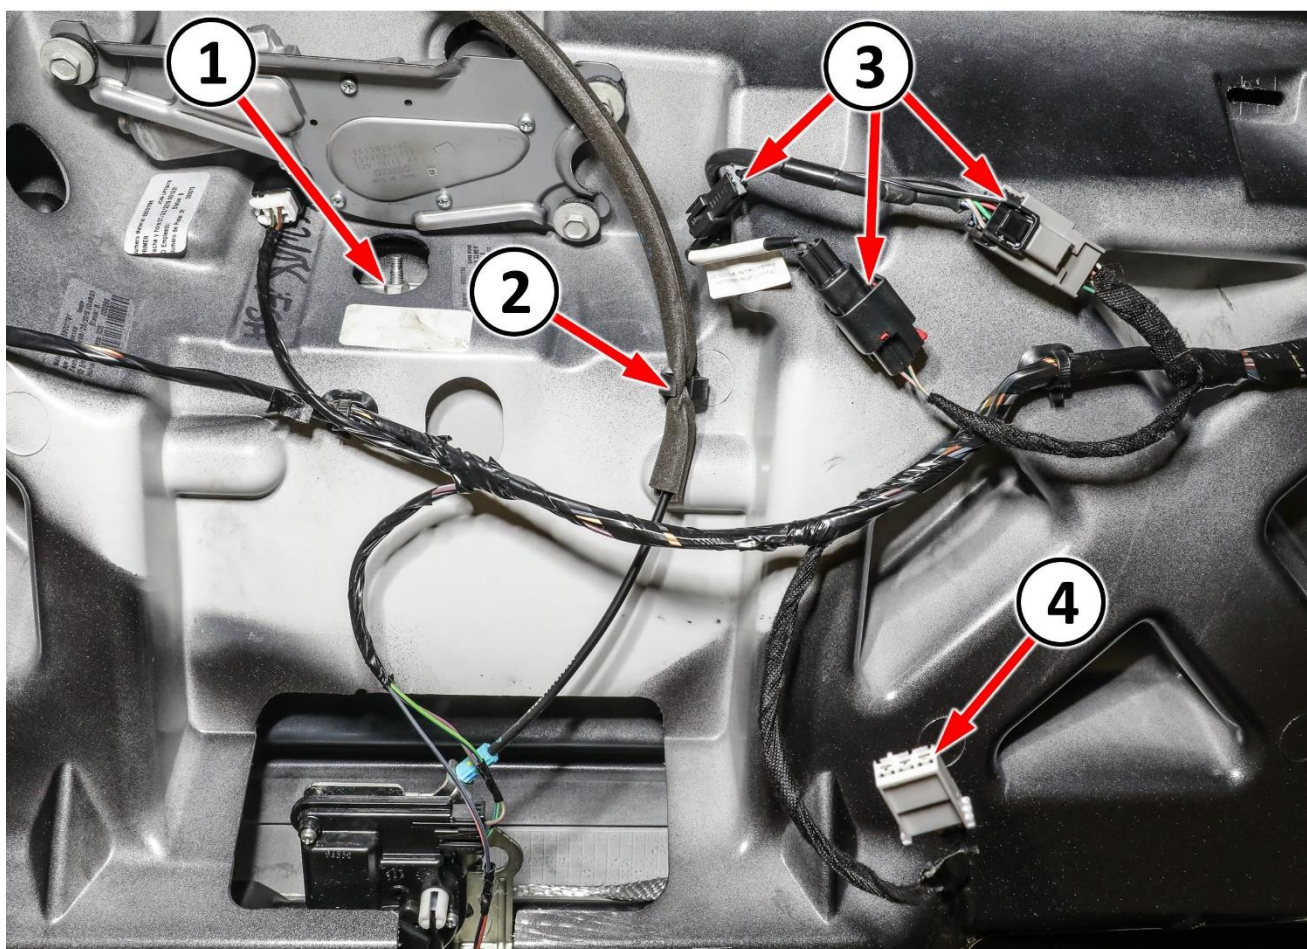

Figure 5 – Inside Liftgate
8. Remove the nut (1) that secures the liftgate handle and backup camera assembly to the liftgate (Figure 5).
9. Release the liftgate handle latch cable from the retainer (2) (Figure 5).
10. Disconnect the three electrical connectors (3) for the liftgate handle, rearview camera, and license plate lamp (Figure 5).
21. Connect the three electrical connectors (3) for the liftgate handle, rearview camera, and license plate lamp (Figure 5).
22. Secure the liftgate handle latch cable to the retainer (2) (Figure 5).
23. Install the nut (1) that secures the liftgate handle assembly to the liftgate (2). Tighten the nut securely (Figure 5).